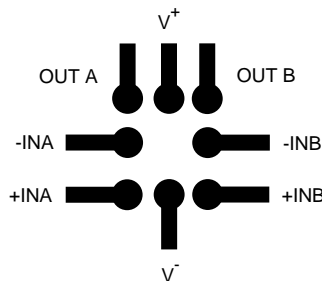

Figure 43. Typical PCB Layout
4. The output trace should be routed away from inputs. The ground plane should extend between the output and inputs to act as a guard. This can be achieved by running a topside ground plane between the output and inputs. A typical PCB layout is shown in Figure 43.